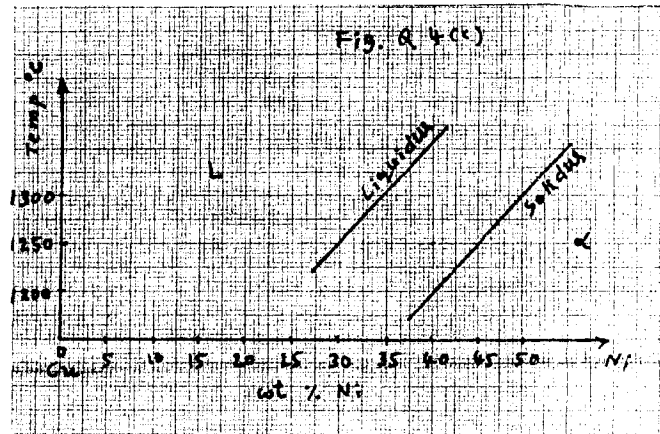

Fig. Q4(c)
- c. Calculate the amounts of α and L at 1250°C and 1175°C in the Cu-40% Ni alloy shown in Fig. Q4(c). (06 Marks)